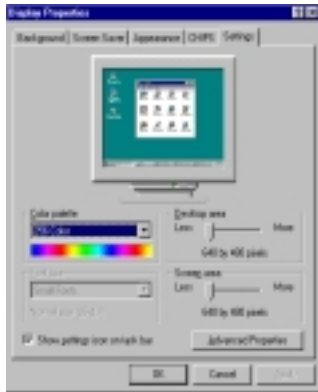

figure 1
1. Install Windows® 95 as you normally would for a VGA display. Click the **Start** button, go to **Settings** and click on **Control Panel**. Choose the **Display** icon and double click on the icon. In the *Display Properties* window, show as figure 1: